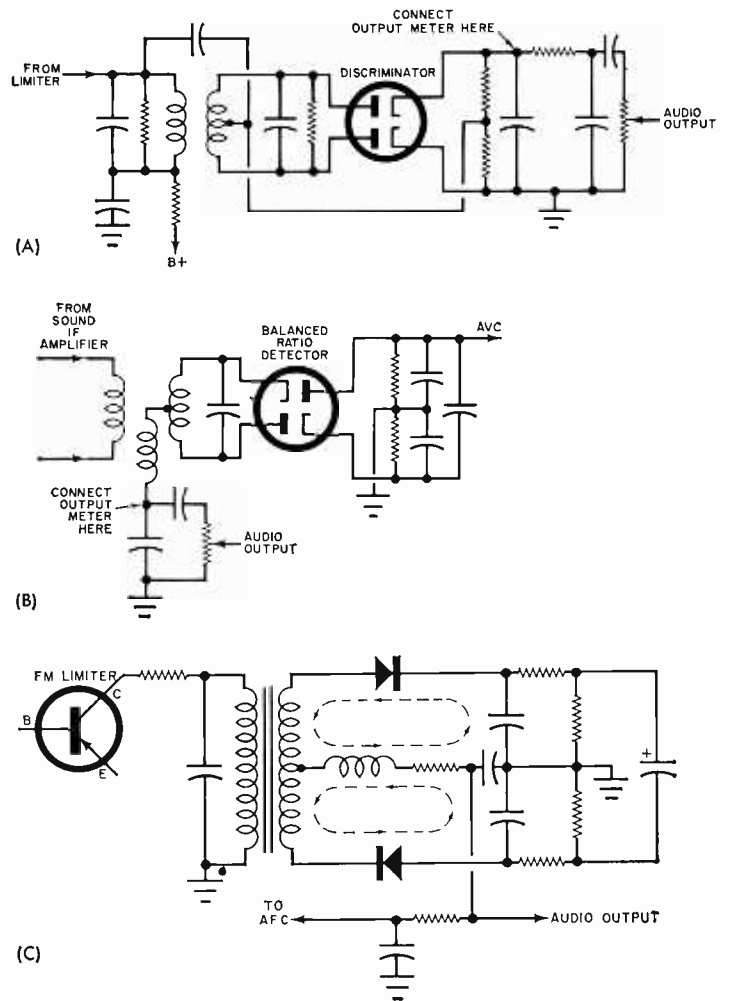

Fig. 23. The FM discriminator shown in (A) above has generally been replaced by the balanced ratio detectors in (B) and (C).
There are two general types of discriminators in present-day FM sets. The first is the *discriminator*, found mostly in older FM sets. The other is the *ratio detector* (see Fig. 23). On the surface, the schematics of the discriminator and the ratio detector seem to be alike in that both circuits use duo-diodes in similar configurations. Although there are minor differences in these circuits, both have the same basic alignment requirements: (1) the primary of the detector transformer must be tuned for maximum output; and (2) the secondary of the detector transformer must be tuned for exactly zero output. Both circuits are aligned in the following manner: